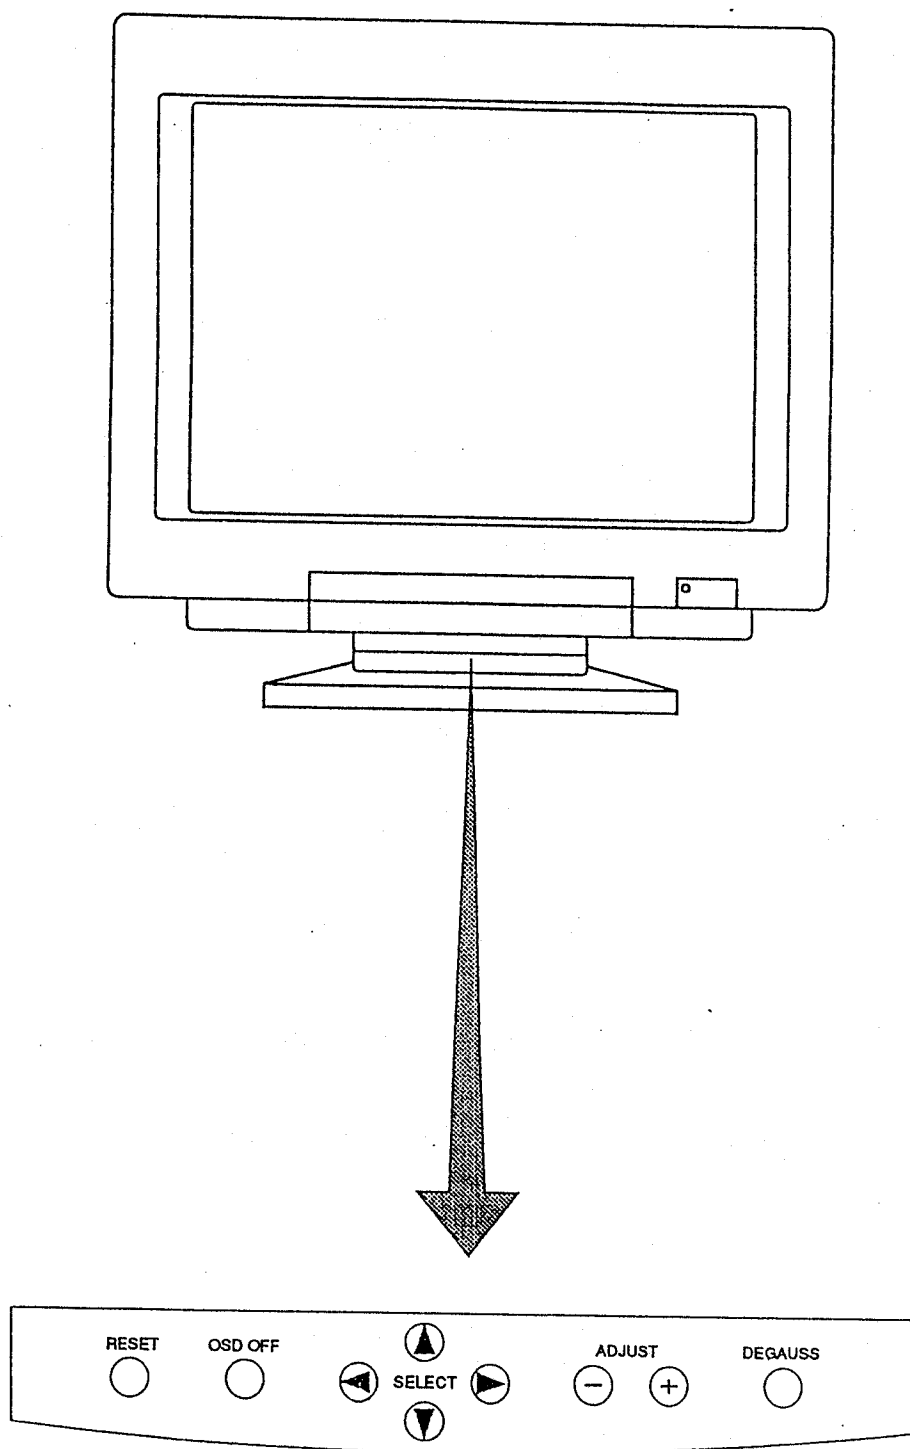

Figure 2. User controls
- (2) Based on above signals, IC101 reads out data like as screen size, screen position etc., which are stored in IC106, and stores into RAM in IC101. IC101 provides the horizontal deflection control signals like as AFC constant and Cs switching which are stored in ROM on IC101.
- (3) IC101 has D/A converter. Inside D/A converter controls brightness, contrast, H, V-size, H, V-phase, RGB-gain, PCC-AMP, PCC-phase, H-free run frequency, DBF and +B adjustment.
- (4) KO0~KO2 and KI0~KI2 are corresponding to each button on the front panel as Figure 2.
- (5) IC701 is a AFC controller. Output pulse is fed into the gate of Q502 on PCB-MAIN.
- (6) IC707 is a +B controller. The gate input of the Q534 (PCB-MAIN) is generated by IC707.
- (7) Contrast control signal is fed into IC200 on PCB-SET. RGB gain control signals are also fed into IC200.
- (8) IC104 works as sync.separation circuit. Sync. signal with green video will be sliced out to H-V composite signal.